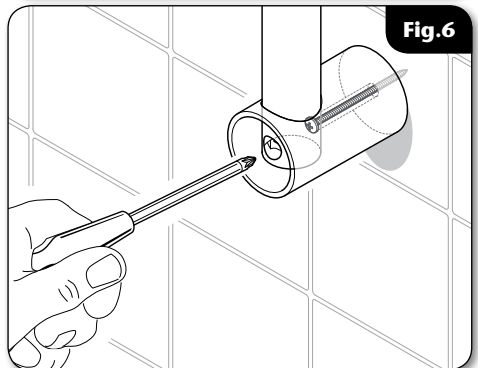

Fig.6
**Note:** *The screw should pass through the larger hole in the base of the riser rail (fig.6) and come to rest against the inner of the riser rail to stop it from turning within the bracket.*